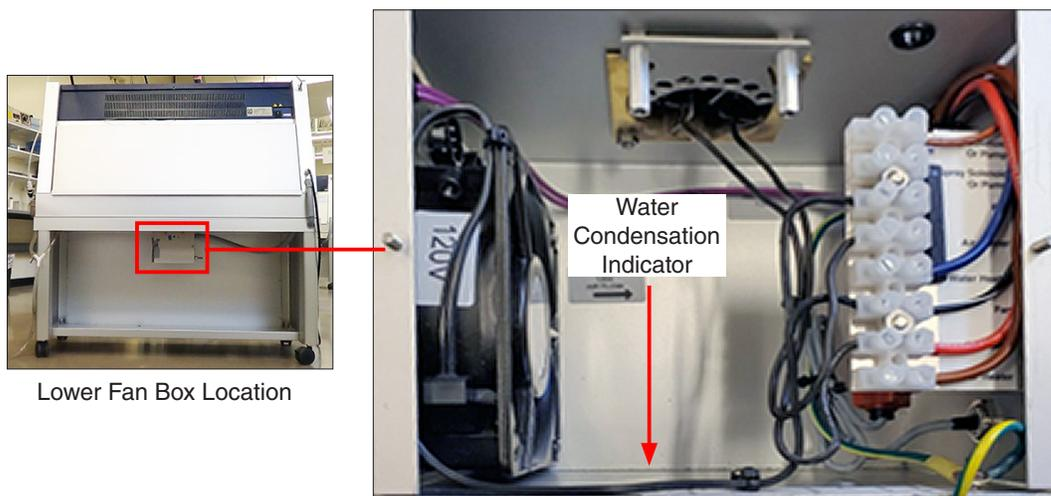

Figure 17.5: Water condensation indicator in lower fan box.
- A water detection indicator is located the bottom of the lower fan box (Figure 17.5).